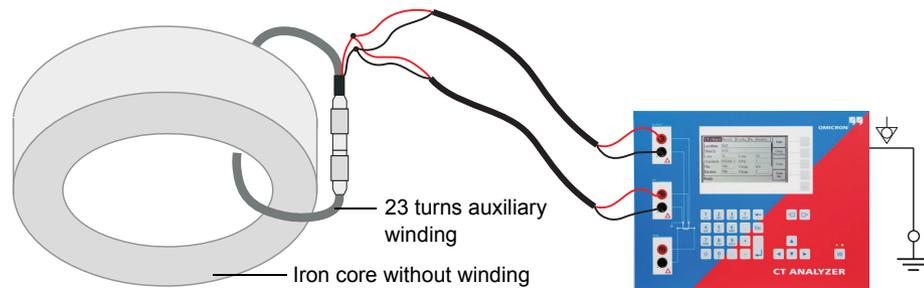
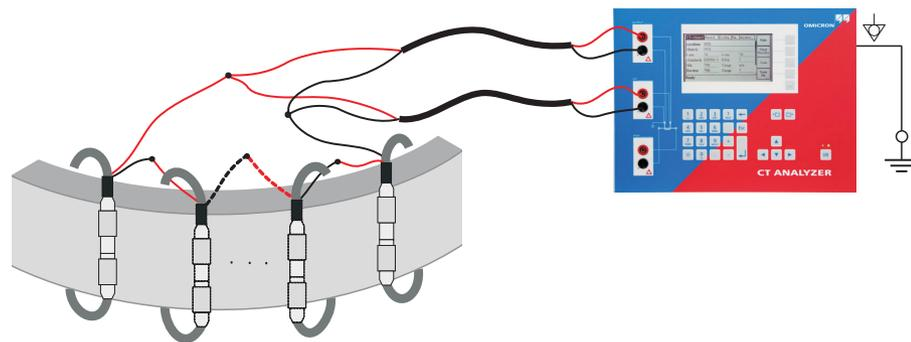

Figure 2-7 Excitation curve measurement using one "auxiliary winding" cable
Figure 2-8 Excitation curve measurement using several cascaded "auxiliary winding" cables
Proceed as follows to perform the measurement (refer to Figure 2-7 and Figure 2-8). Observe the general safety rules in section 2.1 on page 21.
2. Connect the "Output" sockets and input "Sec" of the *CT Analyzer* to the cable as shown in Figure 2-7. For cores that require high currents to reach the knee point, several cables can be cascaded to increase the number of turns, see Figure 2-8.